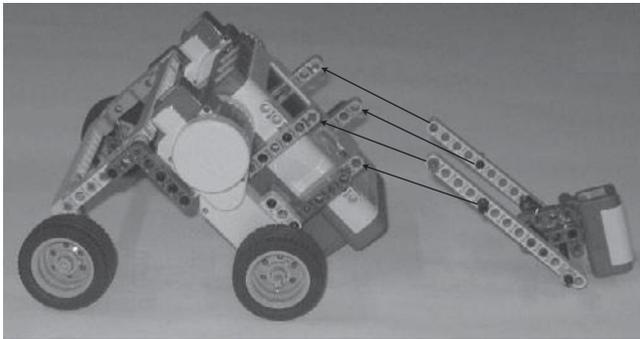

Figure 10.15
Step 1: Connect the color sensor assembly to the front of the robot, as shown in Figure 10.15.